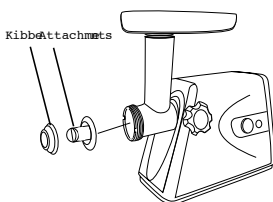

Fig 6
4. Place kibbe attachments onto the feed screw shaft together, fitting protrusions in the slots (fig.6).